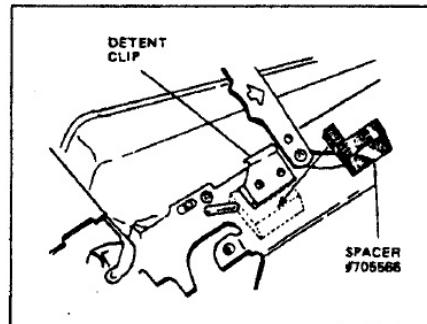

FIGURE 4-22 INSTALLING ERECTING LINK SPACER
- With the camera fully erected, slip special spacer #705566 under the edge of the detent clip as shown in Figure 4-22. The spacer will snap into place under the edge of the clip and will provide the needed clearance between the lower camera back assembly and the bottom cover.
**NOTE:** Early cameras do not have the detent clip shown in Figure 4-22 so the spacer cannot be installed. However, these cameras should not exhibit this clearance problem anyway. Also, new camera models have a modified detent clip which eliminates the clearance problem.